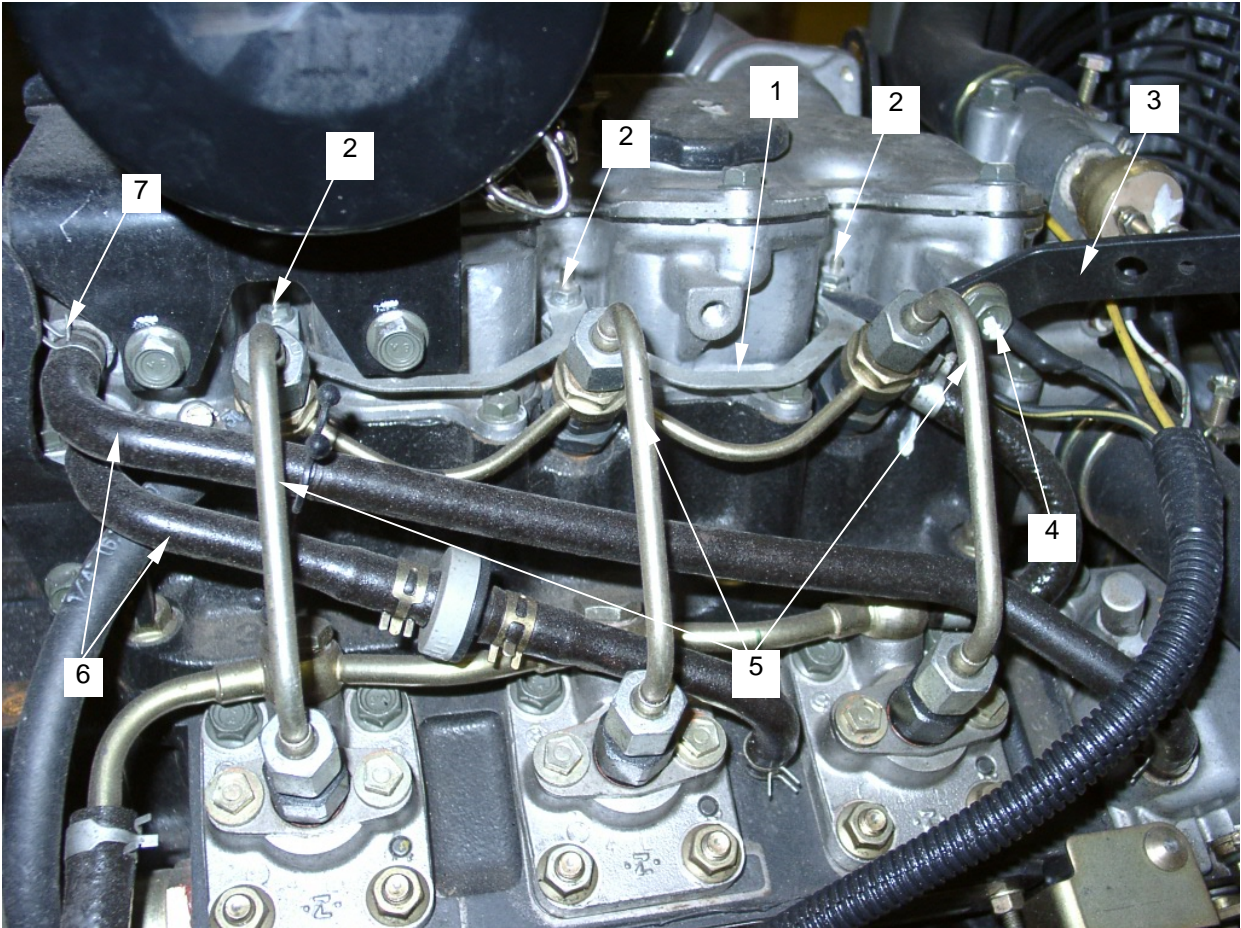

Figure 17. Rocker Head and Head Gasket Access
- Install glow plug connector (**figure 17, item 1**) and fasten with glow plug connector mounting nuts (**figure 17, item 2**).
- Install radiator bracket (**figure 17, item 3**) and fasten with mounting bolts (**figure 17, item 4**).
- Install fuel lines (**figure 17, item 5**) and tighten.
- Install fuel hoses (**figure 17, item 6**) and fasten with hose clamps (**figure 17, item 7**).